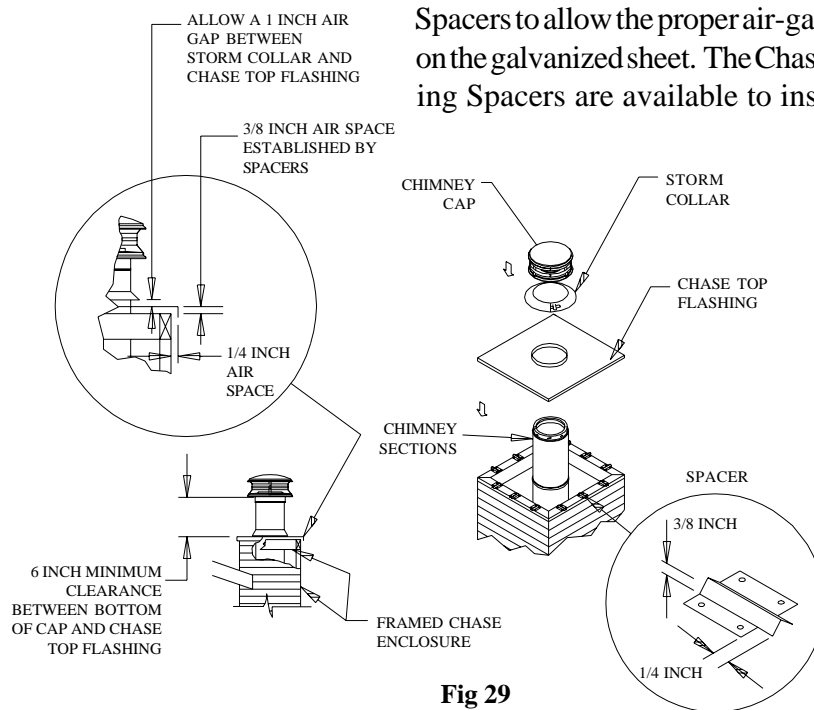

Fig 29
9. Install Chase Top Flashing: It is recommended that a Tee Supported Chimney be enclosed in a chase. If a chase enclosure has been constructed, you can either use a standard flat-roof flashing, or you can use a Chase Top Flashing. Using a Chase Top Flashing allows for a lower profile for the chimney. The Chase Top Flashing has an opening that is 3" larger in diameter than the DuraTech Chimney. If the Chase Top Flashing can fit over your chase enclosure as required (Fig 29) then install as directed, or trim as needed. However, if the Chase Top Flashing is smaller than your chase enclosure, you will need to provide a galvanized sheet capable of covering your chase and overhanging the sides by 1/2 - 3/4 inch. Attach the Chase Top Flashing to the galvanized sheet using appropriate sheet metal screws and non-hardening waterproof sealant. Use the Chase Top Flashing
proper air-gap is maintained. Figure 29 displays in some detail, how these air gaps are established using the Spacers and Chase Top Flashing. Secure the Chase Top Flashing to the chase using a sufficient number of #8, 1-1/2" wood screws, being careful to insure the air gap is maintained between the flashing and the chase. Seal the screw heads with non-hardening sealant. When installing the Storm Collar, allow a 1" air space between the bottom of the Storm Collar and the Chase Top Flashing.